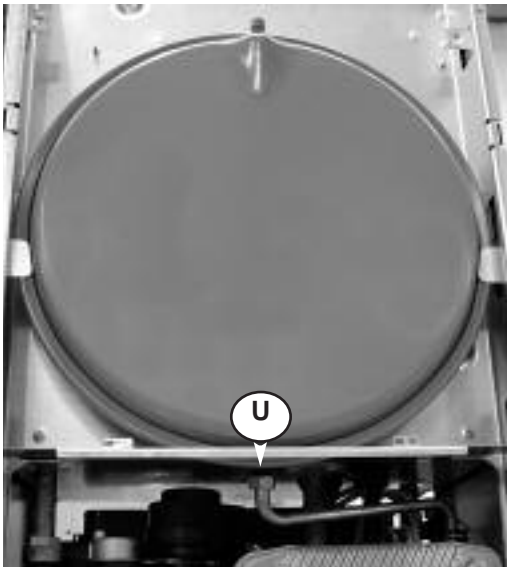

Fig. 97
4. Unscrew the nut **U** (see Fig. 97);